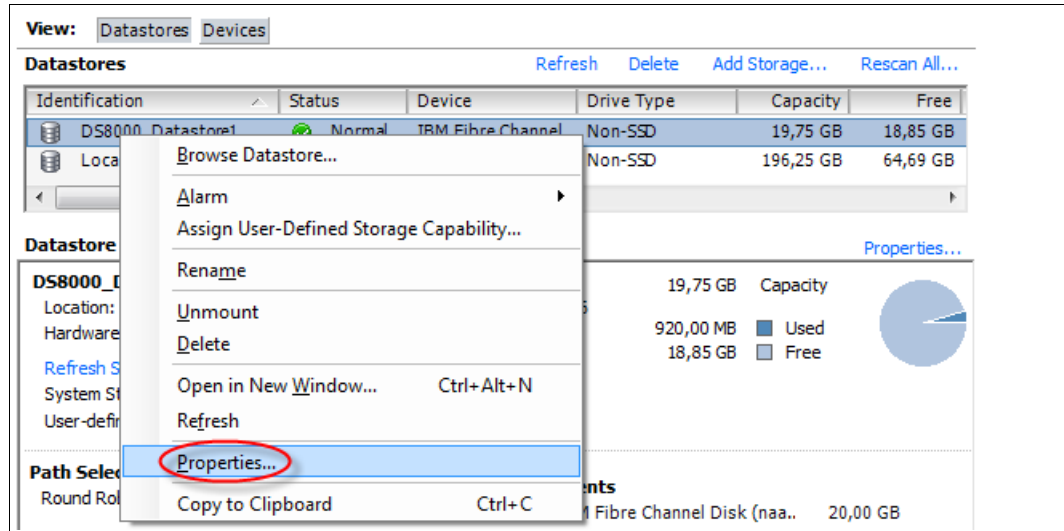

Figure 7-19 Datastore properties
- b. Next, select the datastore. Right-click and select **Properties**. See Figure 7-19 for an example.